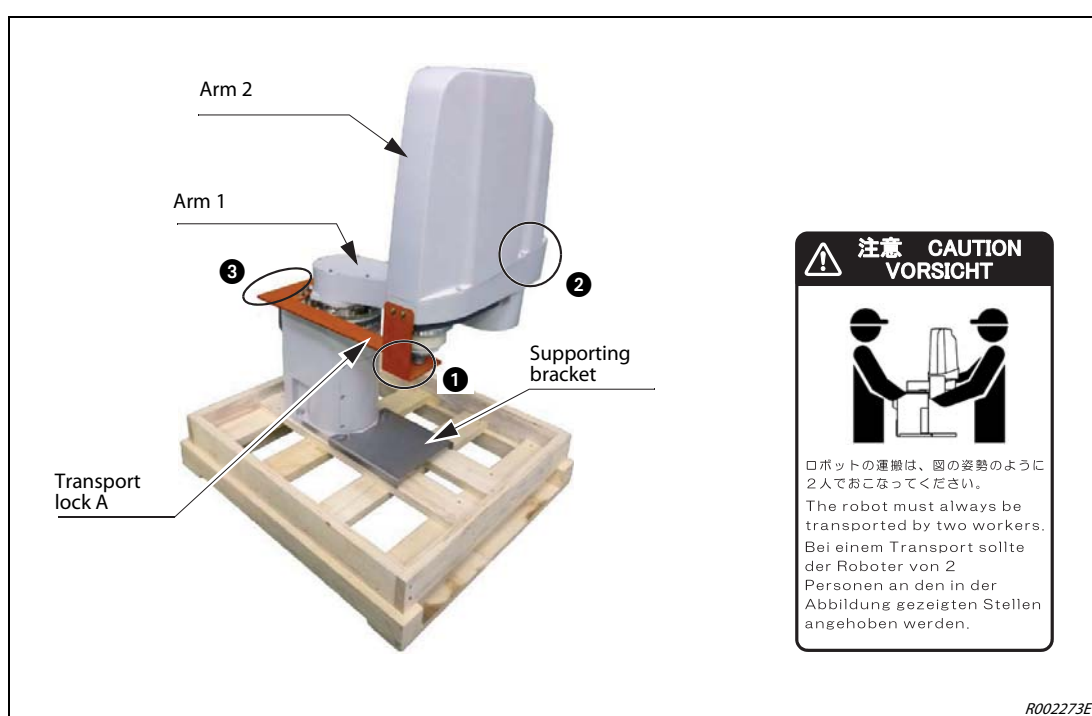

Fig. 3-12: Holding points on robot arm
- *Always carry the robot arm at holding points ①, ② and ③. Never carry the robot arm at the covers because this may result in damages.*
- ① Two persons are always required for transport. When doing so, one person should hold the robot arm at point ① at the transport lock A of arm 2 and point ② on arm 2 and another person should hold the transport lock A of base at point ③ (see Fig. 3-12). Never carry the robot at the sides or at its covers because these may become loose and can destroy the robot arm.